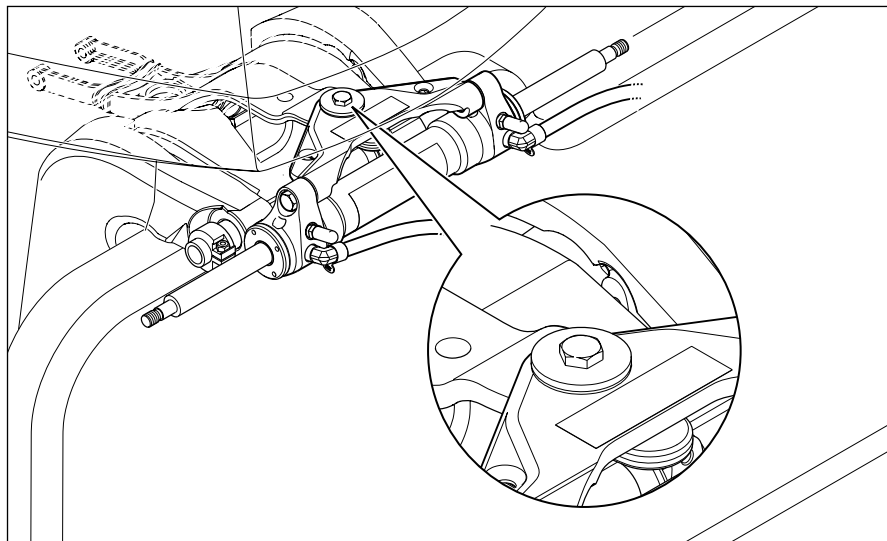

Figure 4.
- After noting spacer location, remove spacers and support rod completely. At this time you will be left with the cylinder mounting plate attached to the steering arm only. (See Figure 4.)
- Mount cylinder to engine steering arm as directed in Book #1.1 included with your steering cylinder. **DO NOT** INSTALL support rod, or support brackets. (See Figure 4.)